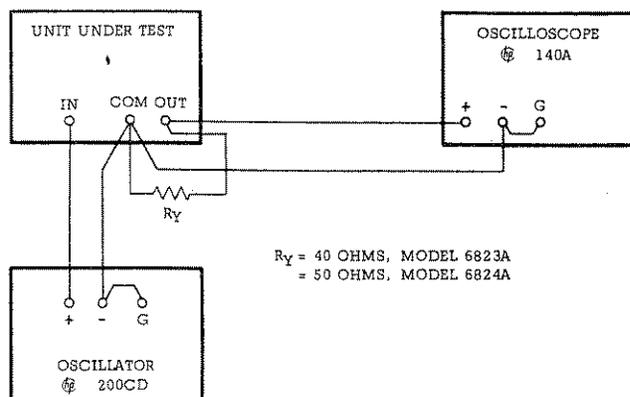

Figure 5-10. Gain and Frequency Response, Test Setup
a. Connect test setup shown in Figure 5-10.
a. Retain test setup of Figure 5-10.